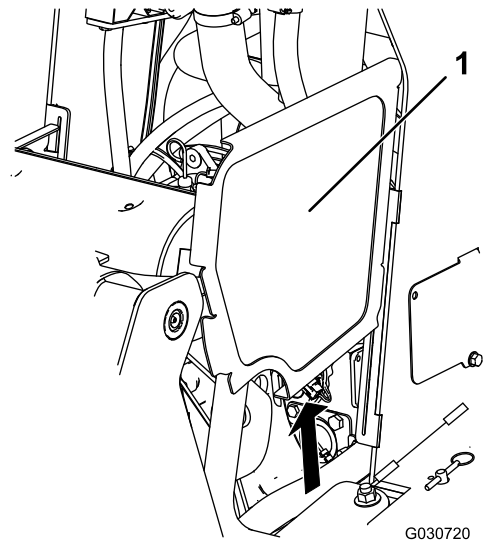

Figure 43
2. Slide the side screens (Figure 43) up and out of the slots in the front screen and frame.